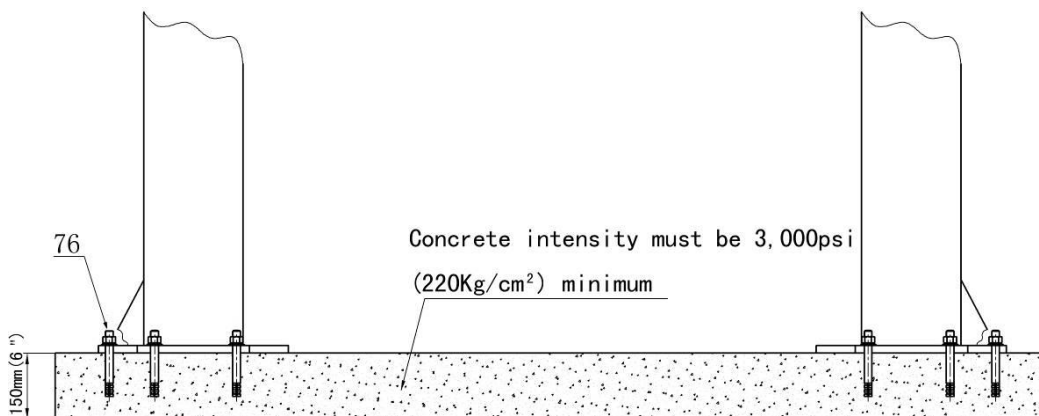

Fig. 3
B. SPECIFICATIONS OF CONCRETE(See Fig. 3)